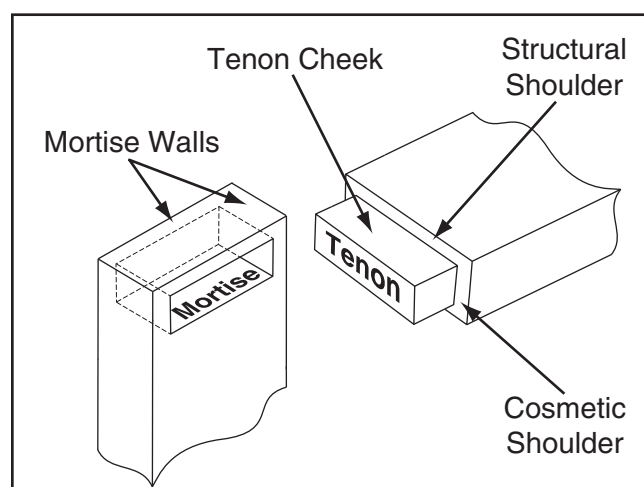

Figure 20. Illustration of typical basic mortise and tenon.
Your tenoning jig is designed to make tenon cheek cuts only. Generally, cheek cuts are made before the structural and cosmetic shoulder cuts, which are then made without using the jig (see **Figure 20**).
2. Select stock for your mortise and tenon joint, then draw cutting lines, as shown in **Figures 20–21**.
- Tenons need structural and cosmetic shoulders (see **Figure 20** on **Page 16**) to strengthen the joint and hide gaps that may occur as the wood shrinks with age.